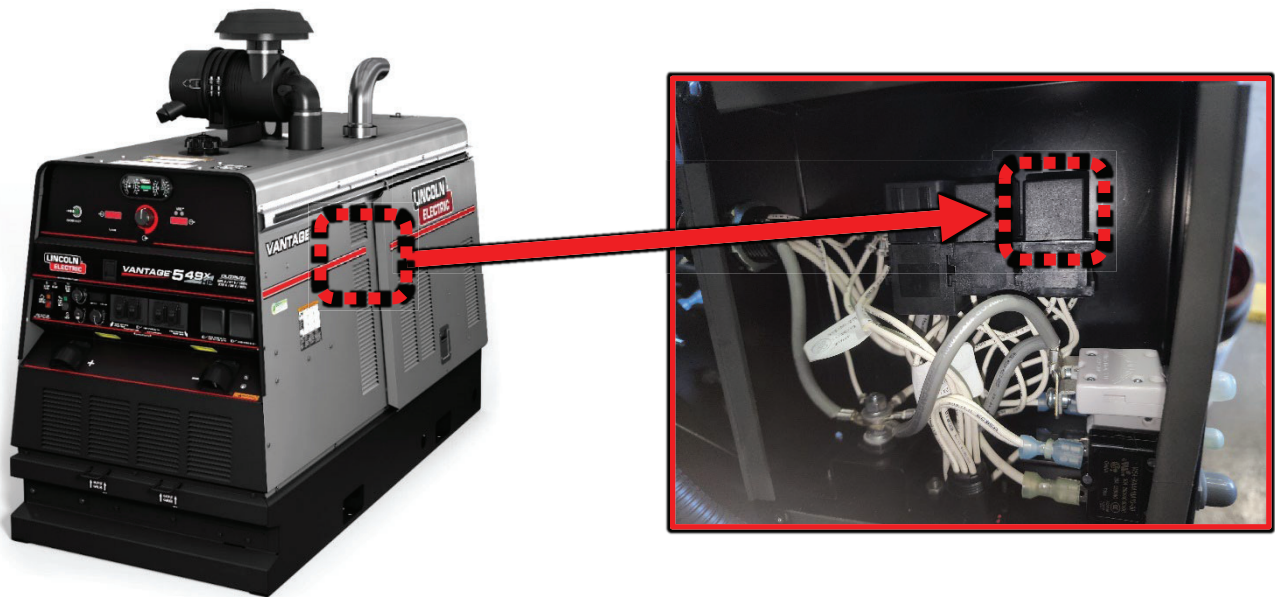

Figure F.1
1. For location of the Idle Relay refer to Figure F.1.